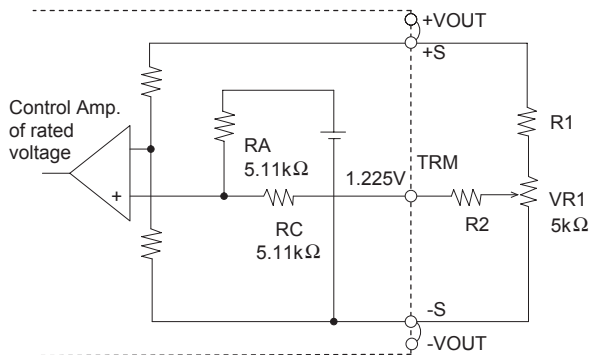

Fig.4.4 Output voltage control circuit
(1) To adjust output voltage
- By connecting the external potentiometer (VR1) and resistors (R1, R2), output voltage becomes adjustable, as shown in Fig.4.4. Recommended external parts are shown in Table 4.2.